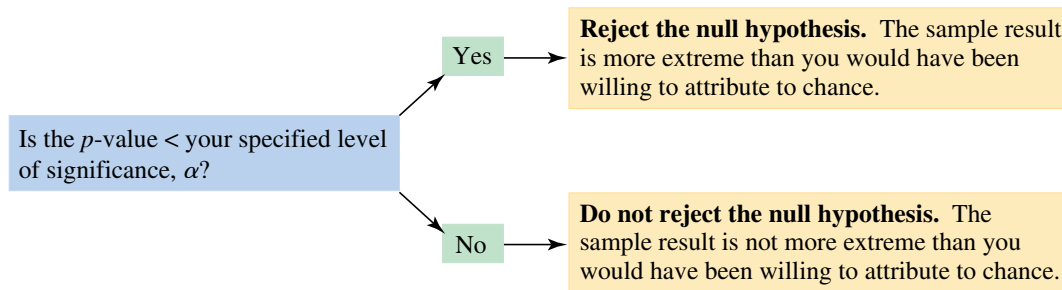

Figure 25: Interpreting the  $P$ -value
**14.22.** To make a strong conclusion (rejection of  $H_0$ ), the  $P$ -value should be “small”. See Figure 25.